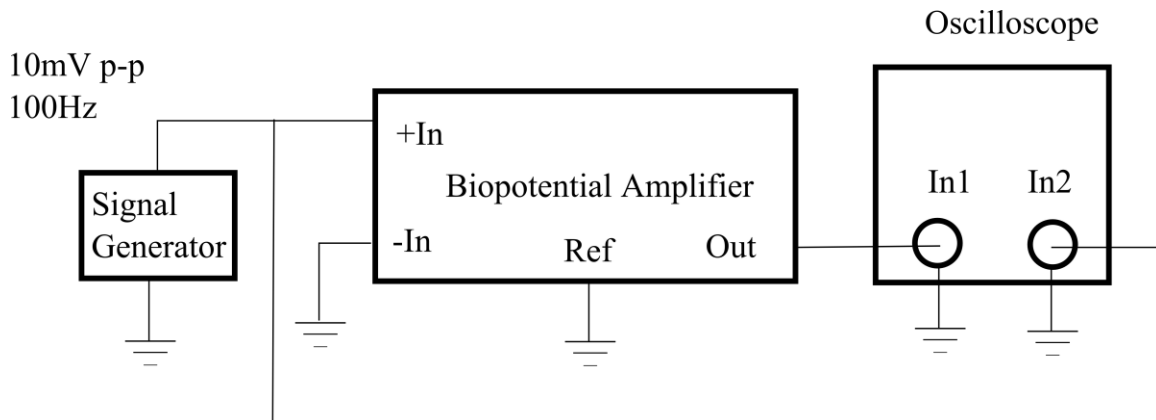

Figure 2: Connections for performance evaluation and tuning
3. Connect your circuit to the signal generator and to the oscilloscope as in Figure 2.